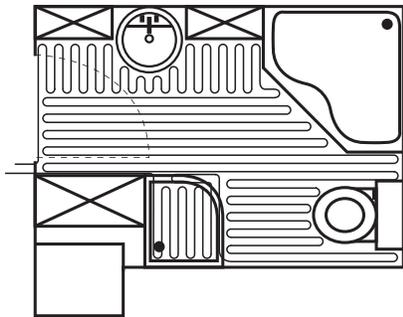

Figure 2.
It is important to plan the layout so that the cable starts and finishes at the same point, which is usually directly below the thermostat. This is where the first splice is laid. Start by laying the cable from the thermostat, stay 3" from the wall and run the cable around the perimeter to the far side of the room. Then start the series of "S" loops on the floor working back towards the thermostat, maintain the calculated spacing as you go (Figure 2). If, for instance, the spacing is 6" on center (OC), lay the first cable 3" from the wall, the second cable loop will be 9" from the wall.